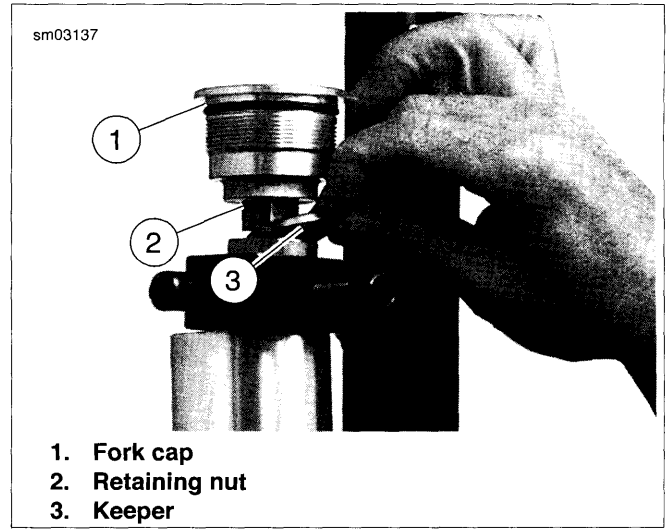

Figure 2-147. Remove Keeper
4. See Figure 2-147. Remove keeper and loosen retaining nut, and fork cap from cartridge assembly.